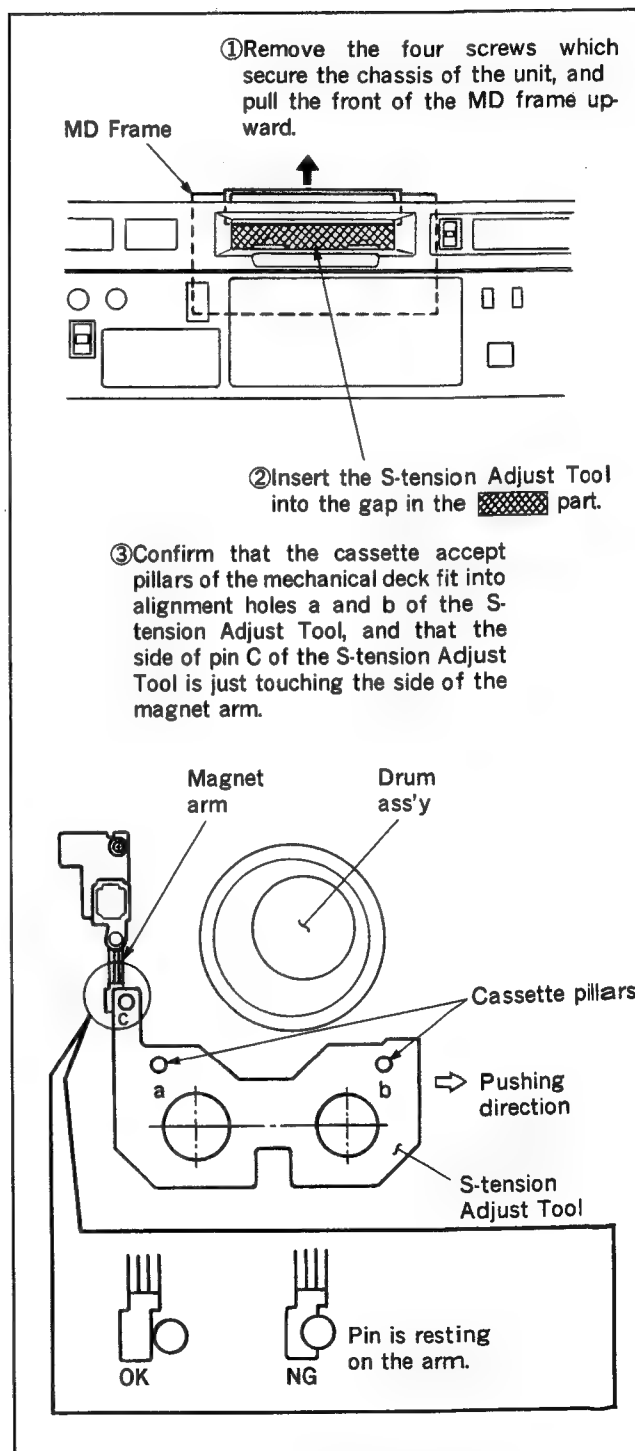

Fig. 5-6-1 How to Set the S-tension Adjust Tool
- (1) Confirm the unit is in the UNLOADING state by turning the POWER switch ON.
- (2) Install the S-tension Sensor Adjust Tool in the order of ①, ② and ③ in Fig. 5-6-1, on the Mechanical Deck (push the tool to the right so that remove the horizontal play.)
- (3) Short between TP904 and TP905 on the SST-2 board with shorting lead, and measure the voltage at TP802 ("A" volt).